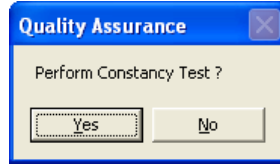

Figure 5-8
11. If the calibration was successful, Eu152 Linearity Correction results appear on the screen and the software prompts you to perform Constancy Test as shown in Figure 5-8. Click the button or press the Y key to proceed. Otherwise, click the button or press the N key to exit the Auto Calibration procedure.